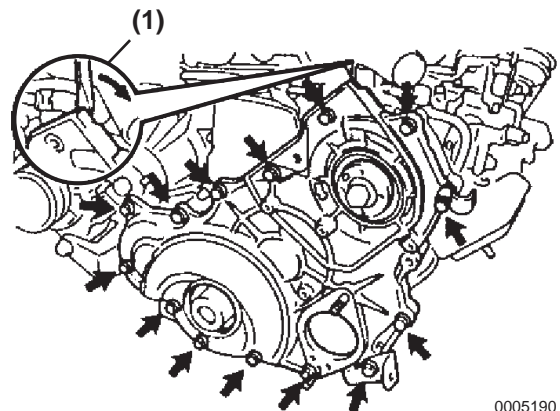

Figure 5-190
11. Remove 14 bolts and pry (**Figure 5-190, (1)**) out and remove the timing gear cover.